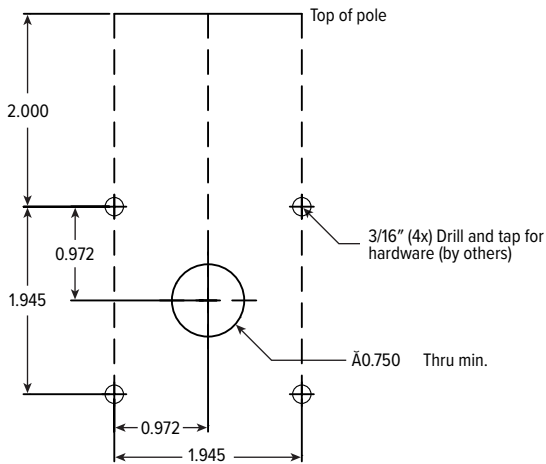
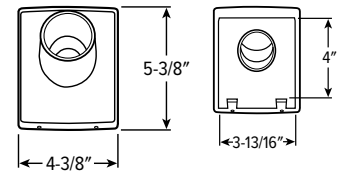

FIG. 4A VF1 Cast Adapter
FIG. 4C
1. Remove mounting plate from cast adapter (FIG. 4A-4C) by loosening (2) 10-24 set screws at bottom (FIG. 4C) using 3/32'' hex key. It is not necessary to remove the screws.